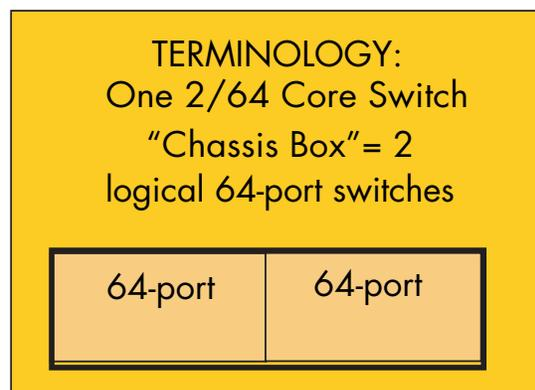

Figure 21: Core Switch definition
2. The HP StorageWorks core switch 2/64 – maximum of 6 chassis total per fabric, each chassis contains 2 logical switches (See Figure 21), thus 6 chassis add 12 to the fabric switch count. Maximum fabric configuration is 6 chassis with 16 other 8-port, 16-port, or 32-port switches.